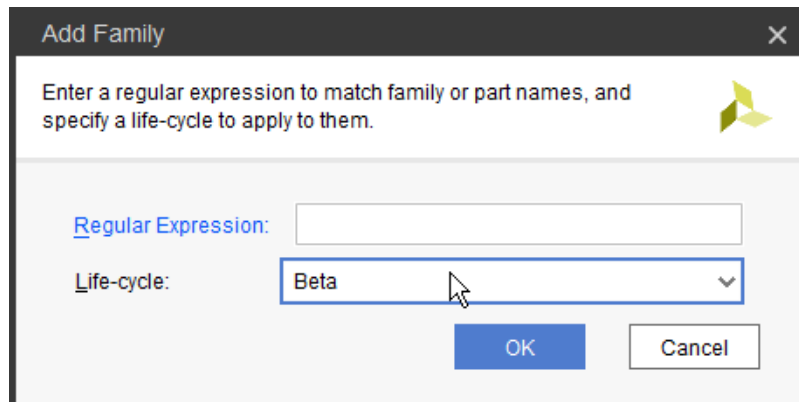

Figure 4-5: Add Family Dialog Box for Regular Expressions
3. In the Add Family dialog box, shown in Figure 4-5, set the regular expression syntax to add the desired device family and parts.